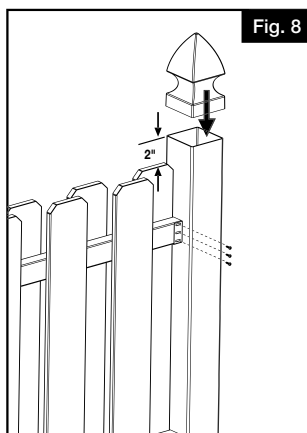

Fig. 8
- h. Install any remaining screws in brackets and secure post tops to posts (Fig. 8).